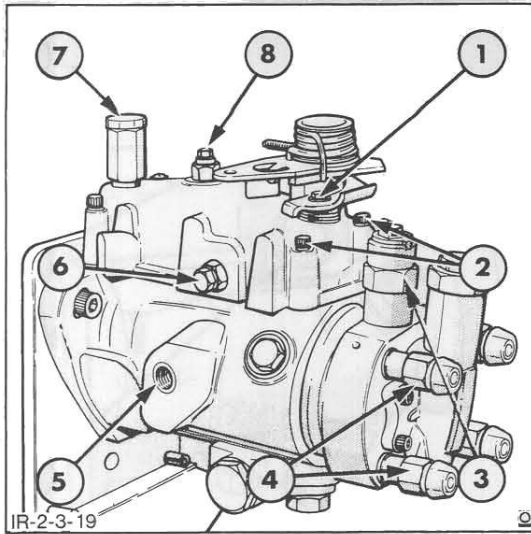

Figure 19
1. Unscrew and remove the pressurising valve holder, Figure 19, from the governor control cover. Remove and discard the dowty washer from the valve.
3. Loosen the setbolt in the manual fuel shut-off lever, Figure 19, and remove complete with lock washer and plain washer. Lift the lever complete with spring from the governor control cover. Remove the cap washer from the lever shaft.